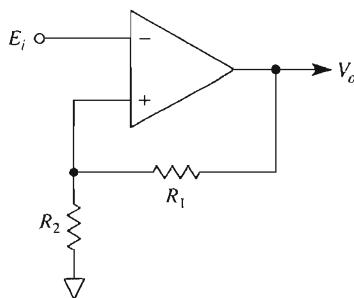

FIGURE P4-2
- 4-2. In Fig. P4-2, $R_1 = 25\text{ k}\Omega$ and $R_2 = 5\text{ k}\Omega$. Assume for simplicity that $\pm V_{\text{sat}} = \pm 15\text{ V}$. Calculate (a) V_{UT} ; (b) V_{LT} ; (c) V_H .